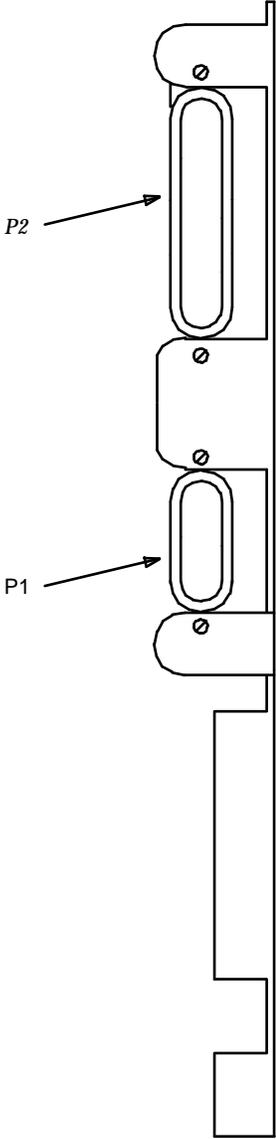

FIGURE 4-14. P1 and P2 Cable Locations
5. Connect the "P2" and "P1" (large and small) connectors to the "A" carrier (see Figure 4-14). To get enough slack in the cables, cut the tie wrap holding the intercabinet cable to the upright in the area of the carrier being installed. Snap the connector lock into place to ensure the connection is properly made.